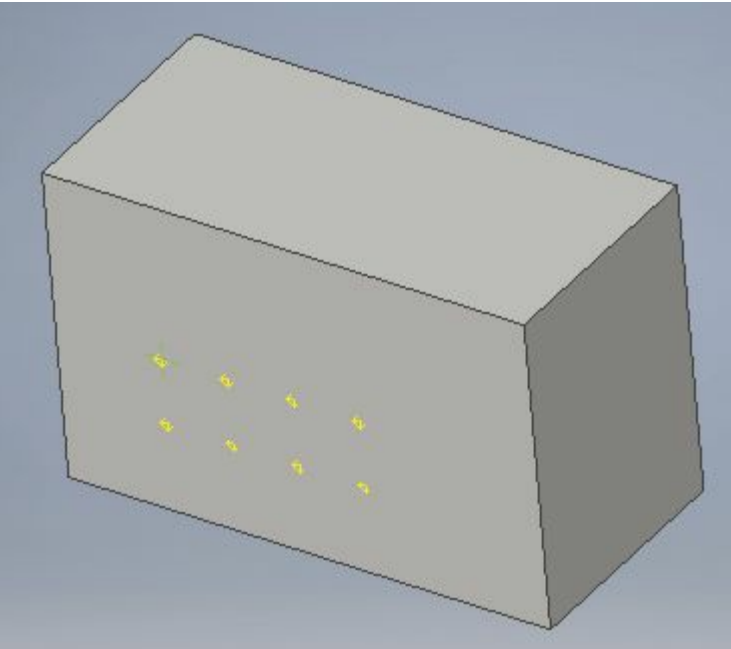

Figure-30. Pin group created
- Click on the **OK** button to create the pin group; refer to Figure-30.